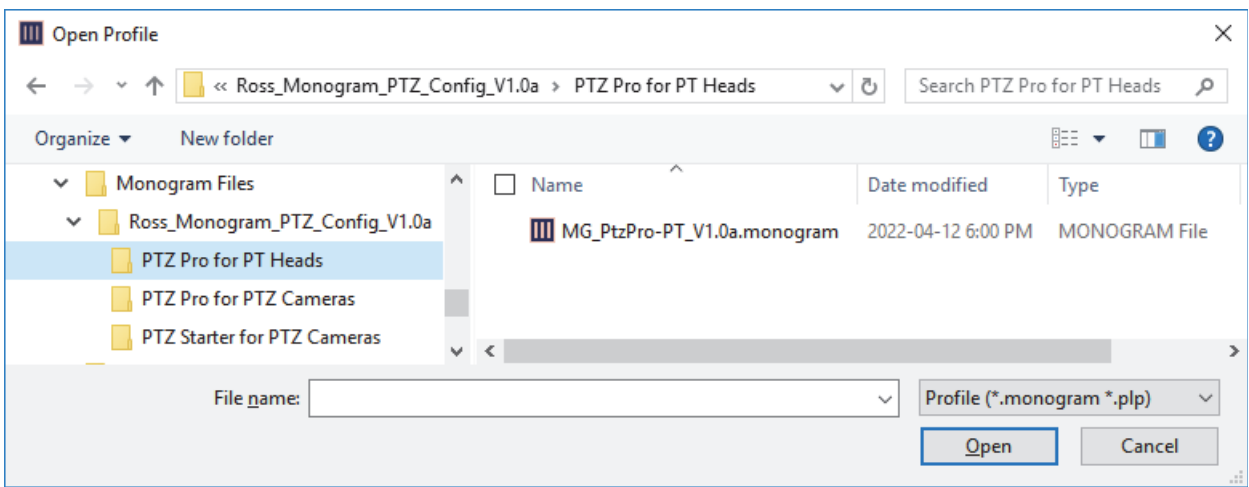

Figure 25 - Folder Containing a Configuration Profile (.monogram file)
- Navigate to the folder you extracted (**C:\Ross\Monogram Files\Ross_Monogram_PTZ_Config_<version>**), and then open the folder that corresponds to your Monogram Creative Console package and the type of robotic camera systems you want to control (Figure 25):
5. Open the folder that corresponds to your Monogram Creative Console package and the type of robotic camera systems you want to control (Figure 25):